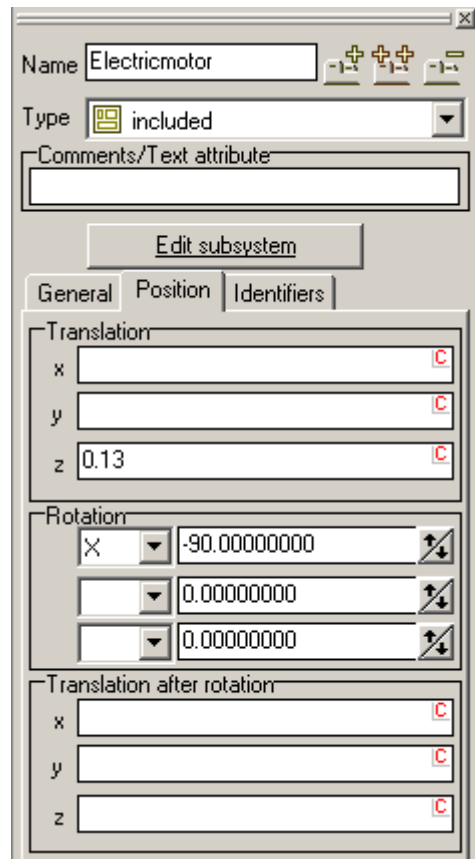

Figure 3.17
4. Set the subsystem location as in Fig. 3.17.
1. Click the **Edit subsystem** button to edit the **Electricmotor** subsystem, see Fig. 3.17. New object constructor for the **Electricmotor** appears.